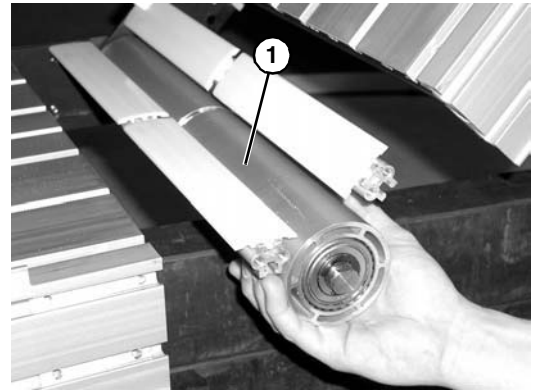

Figure 82
4. Slide the idler pulley assembly (**Figure 82, item 1**) out of the knuckle plate on the opposite side.